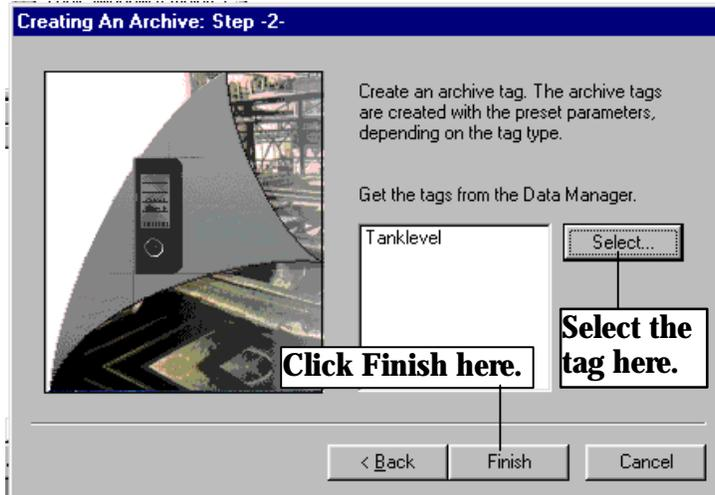

Figure 3.4 WinCC Project "QckStart"; Step 2 in the Archive Wizard
4. Select which data management tag to assign to the archive using the Select button. Choose the "TankLevel" tag, and then click "Finish". See Figure 3.4.